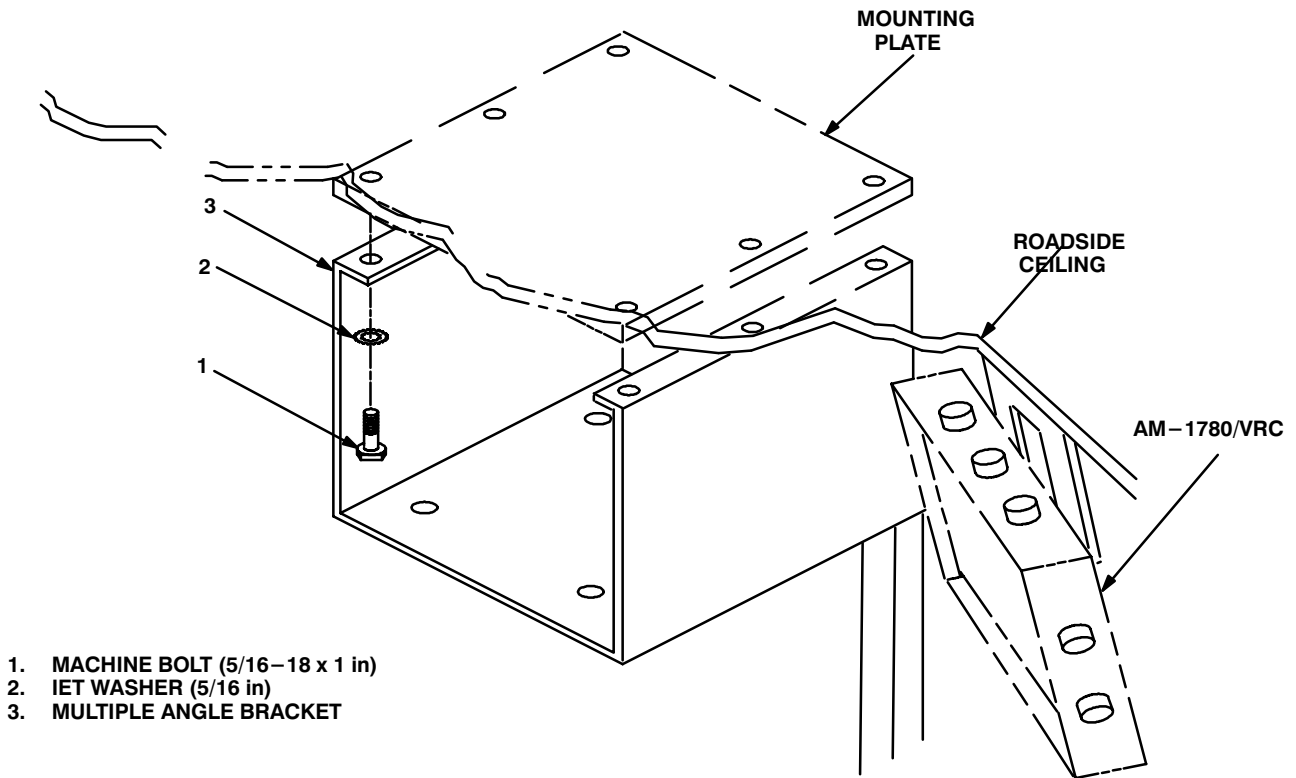

Figure 5-4 (1). Mounting Base Installation: Installing Multiple Angle Bracket
a. Multiple angle bracket (3) and existing mounting plate.	Remove a 1" square area of paint around six existing mounting holes in multiple angle bracket (3) Remove a 1" square area of paint on the underside of existing mounting plate around six existing mounting holes that mate with mounting holes of multiple angle bracket (3). Clean the paint removed area and apply a thin coat of conductive anti-seize compound.	Tools: Electric grinder or equivalent.
b. Multiple angle bracket (3).	Position under mounting plate (near AM-1780/VRC) and align mounting holes. See Figure 5-4(1).
c. Six machine bolts (1) and six internal/external-toothed (IET) washers (2).	Install and secure to multiple angle bracket (3) and mounting plate.	Tools: 1/2 in socket.